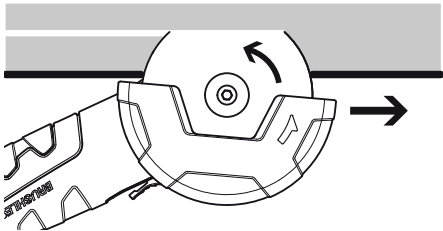

Fig. 11: Working direction of the machine
3. Always not the working direction when abrasive cutting (➔ Fig. 11: Working direction of the machine; Page 36).